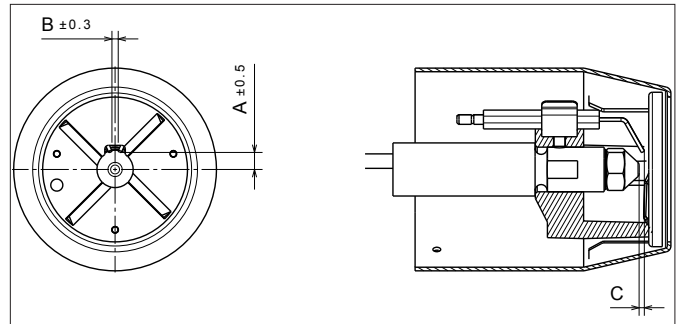

Figure 16-3: Ignition electrode settings
6. Check/adjust electrode setting. Refer to Figure 16-3.